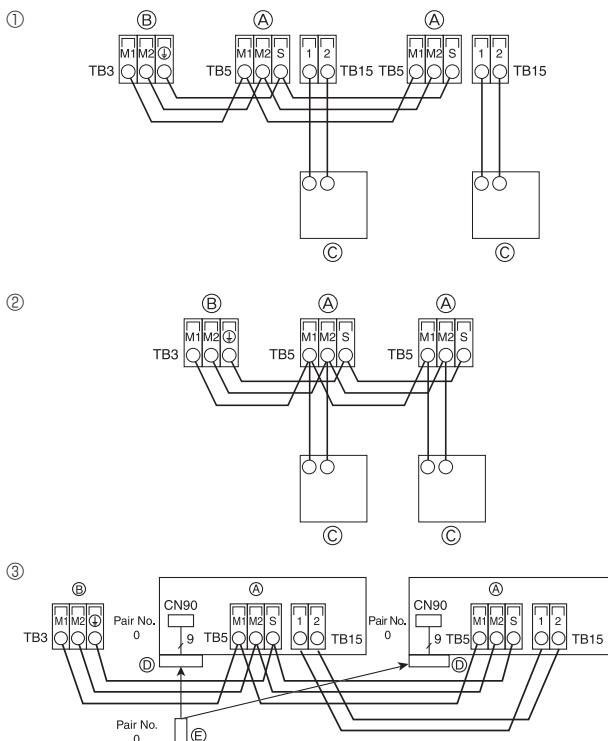
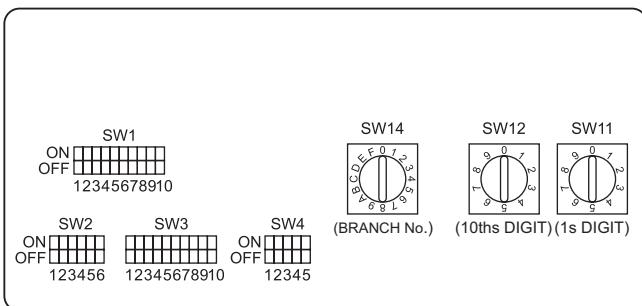

Fig. 4-5
Fig. 4-6
4.4. Connecting remote controller, indoor and outdoor transmission cables (Fig. 4-5)
- ① MA Remote controller
- ② DC 9 to 13 V between 1 and 2 (MA remote controller)
- ③ M-NET Remote controller
- ④ DC 24 to 30 V between M1 and M2 (M-NET remote controller)
- ⑤ Wireless remote controller (When installing wireless signal receiver)
- ⑥ Terminal block for indoor transmission cable
⑦ Terminal block for outdoor transmission cable (M1(A), M2(B), S)
⑧ Remote controller
⑨ Wireless signal receiver
⑩ Wireless remote controller
4.5. Setting addresses (Fig. 4-6)